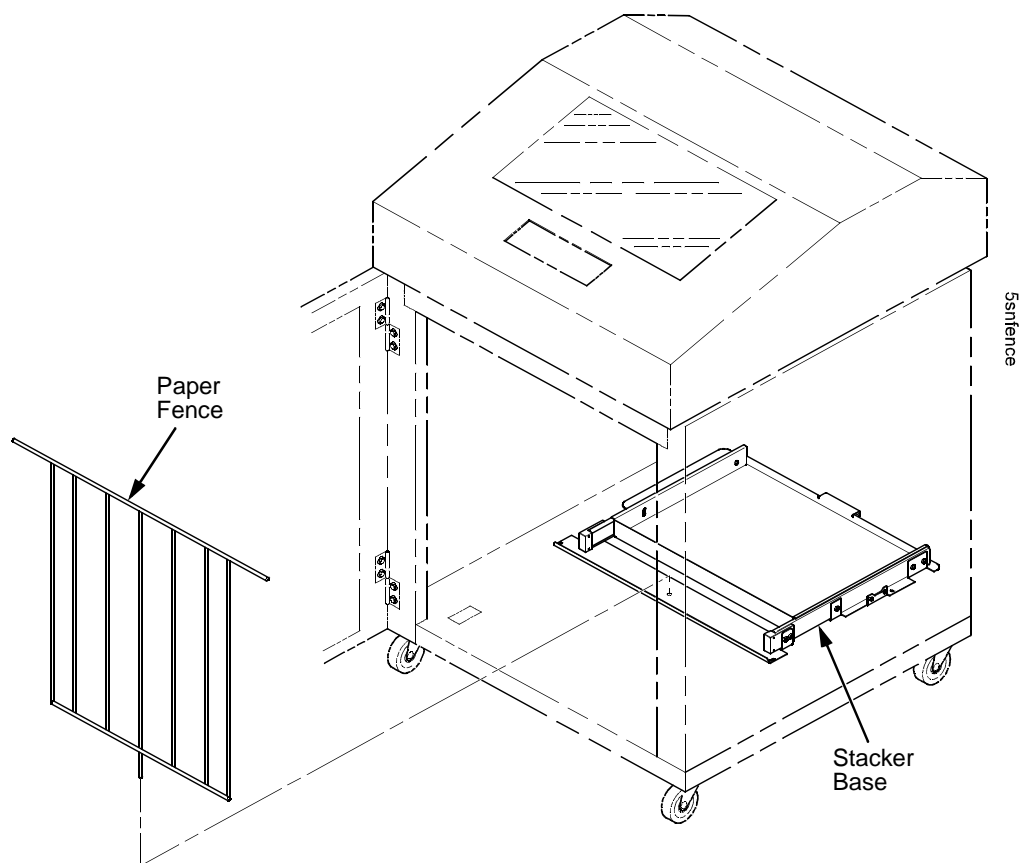

Figure 84. Paper Fence
37. Install the paper fence. (Figure 84.)